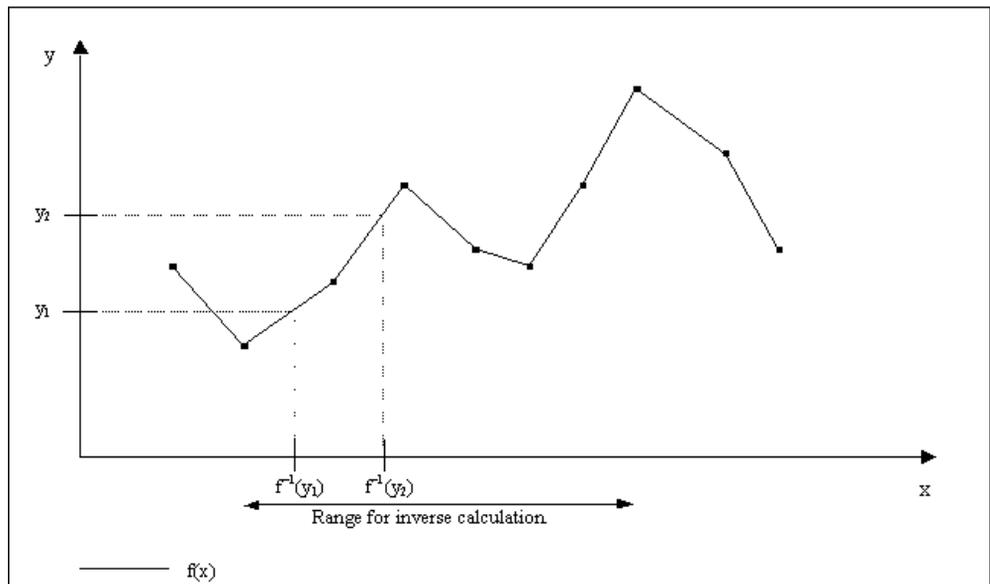

Figure 104. Calculation of the inverse function $f(x)$
- If the inverse is still not unique, the smallest value is chosen. This is illustrated in Figure 104, which shows the inverse calculation for two different *InInverse* values, y_1 and y_2 . For y_1 there are two possible inverse values. The rightmost is chosen, since the inverse is calculated from the curve between the maximum and minimum values. For y_2 , there are four possible inverse values, three of which are inside the inverse range. The leftmost of these is chosen. If *InInverse* is greater than the maximum defined value of y or less than the minimum defined value of y , the inverse calculation is based on using the maximum or minimum value respectively.